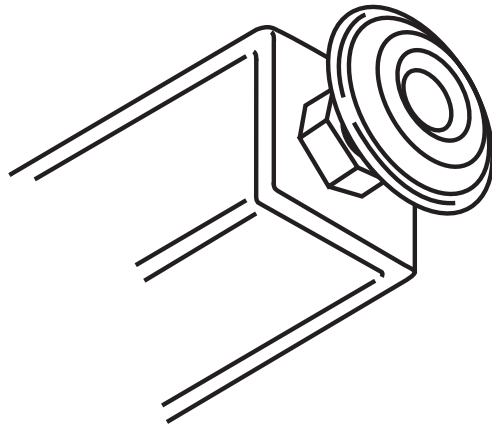

Figure A4. Adjusting a leg leveler and tightening nut.
4) Locate the game's four legs. Adjust the tightening nut and leg leveler on each leg as shown in figure A4. Thread the tightening nut onto each leg. Position it all the way down, next to the foot of the leveler. Thread the leveler into each leg until the tightening nut is against its underside. With the cabinet set up on a perfectly level surface, this should provide a playfield pitch of approximately 6.5°, front to back.